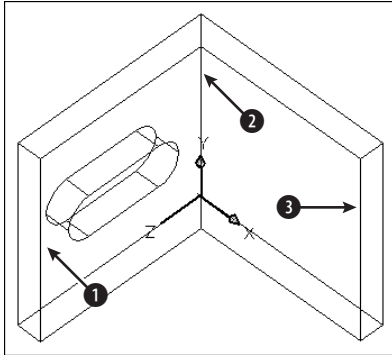
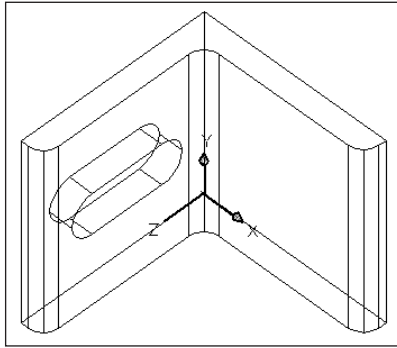

Figure 24-35: The mounting angle needs filleting.
Figure 24-36: The filleted mounting angle
2. Save the file as `ab24-11.dwg` in your `AutoCAD Bible` folder. This is a solid model of a mounting angle, as shown in Figure 24-35. It needs to be filleted.
4. At the `Select first object or [Polyline/Radius/Trim/multiple]:` prompt, pick the edge at ① in Figure 24-35.
6. At the `Select an edge or [Chain/Radius]:` prompt, pick ②.
7. At the `Select an edge or [Chain/Radius]:` prompt, pick ③. Press `Enter` to end the command. AutoCAD fillets all three edges.
8. Save your drawing. It should look like Figure 24-36.